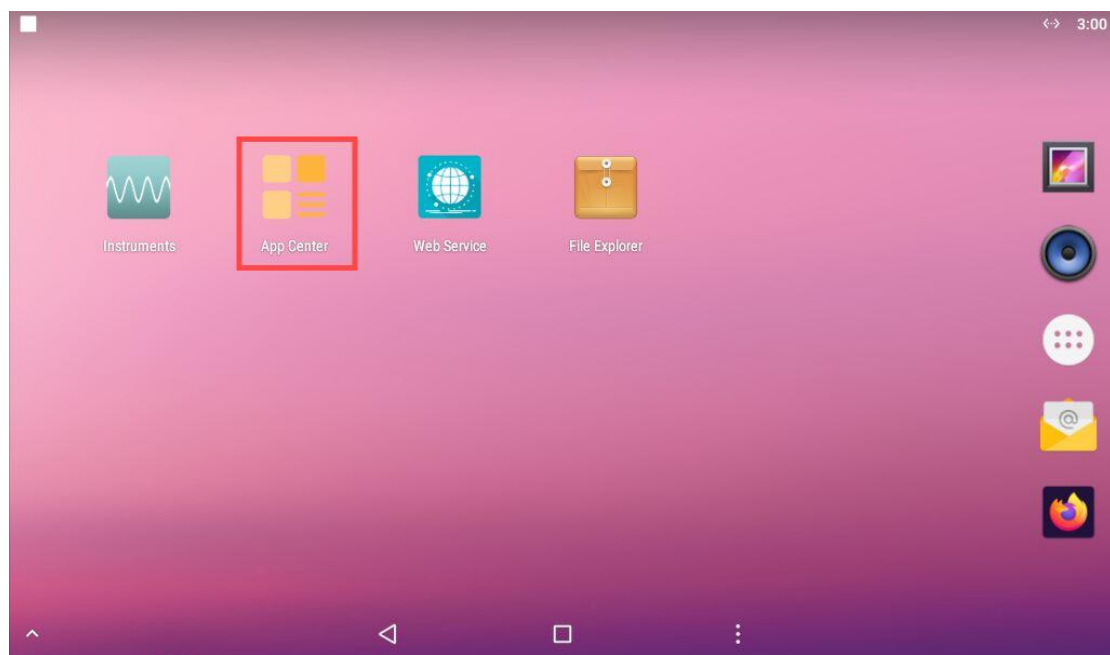

Figure 1-1
(1) In the main interface of Android system,click **"App Center"** as shown in Figure 1-1.